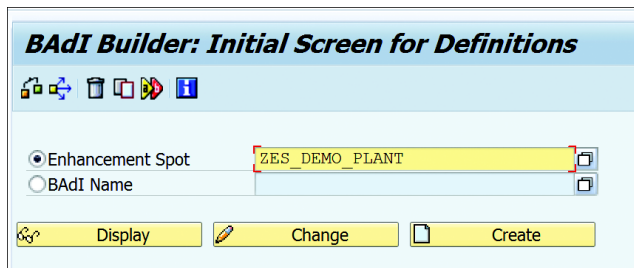

Figure 20.29 BAdI Builder: Initial Screen
1. Go to Transaction SE18 (BAdI Builder), and select the **ENHANCEMENT SPOT** radio button. Provide a name for the enhancement spot and click **CREATE** (see Figure 20.29).